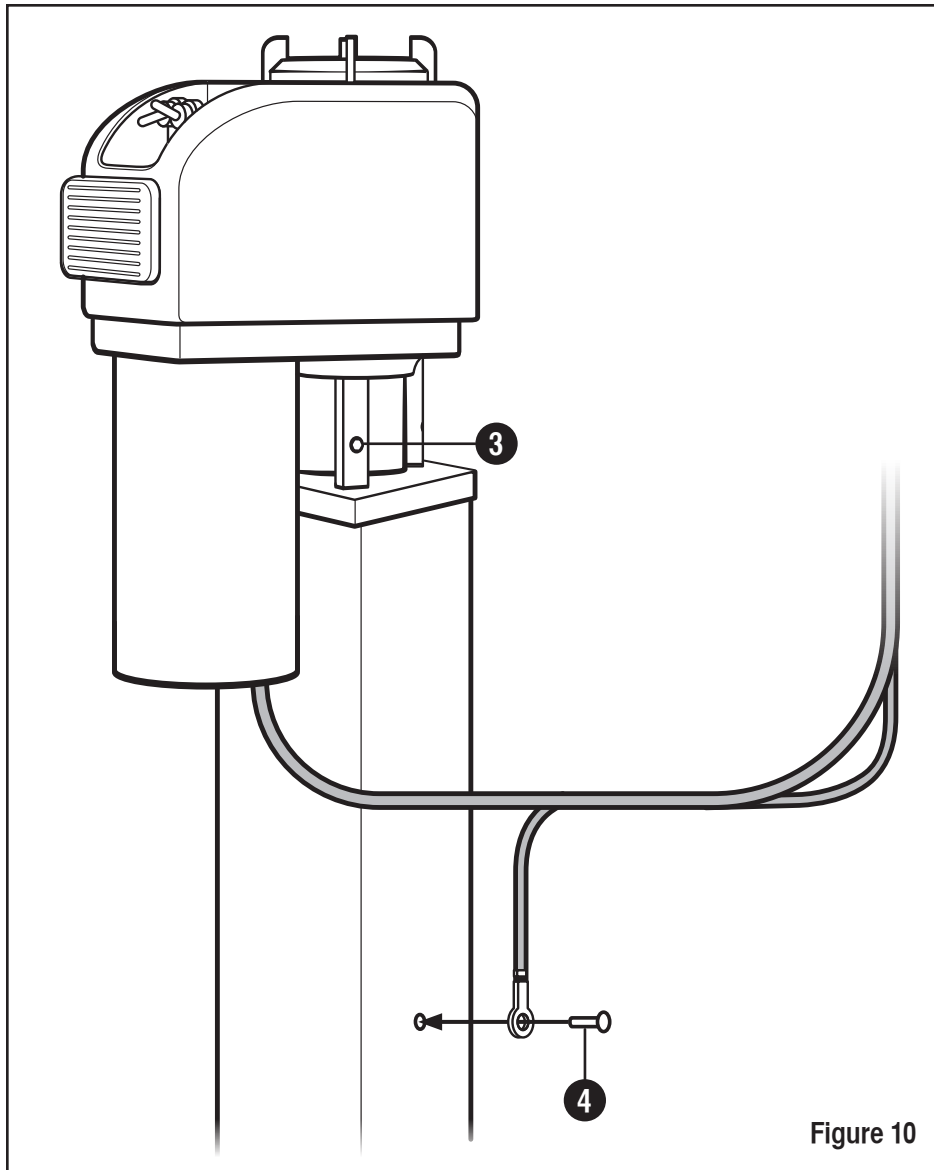

Figure 10
3. Using a 5/32" Allen wrench, tighten the three threaded locking screws at the base of the Powerhead (**Figure 10**).